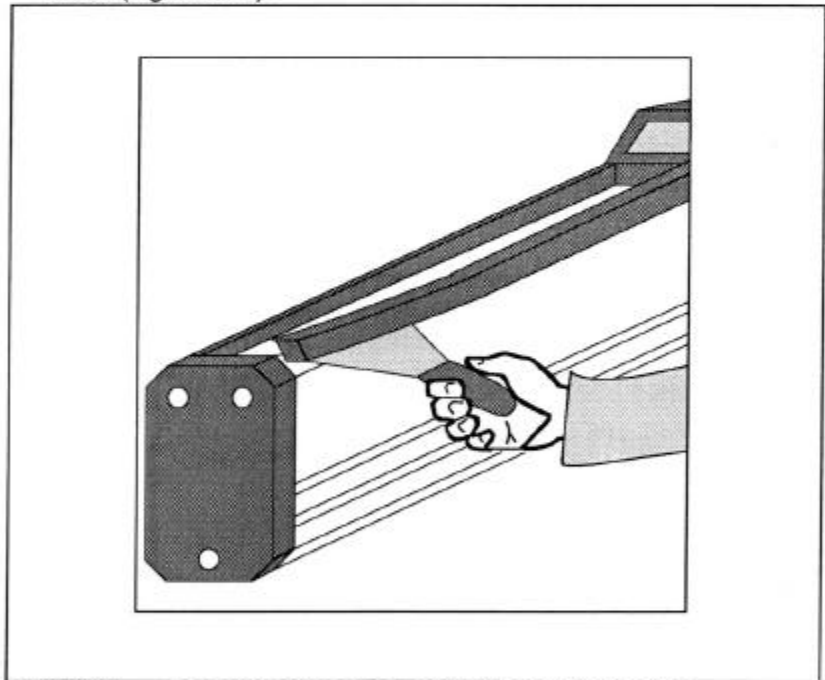

Figure 12-1 Removing the snap-on strip through lever action
1. Insert the spatula in the groove between the casing and the snap-on strip and gradually remove the snap-on strip from the casing by lever action (Figure 12-1).